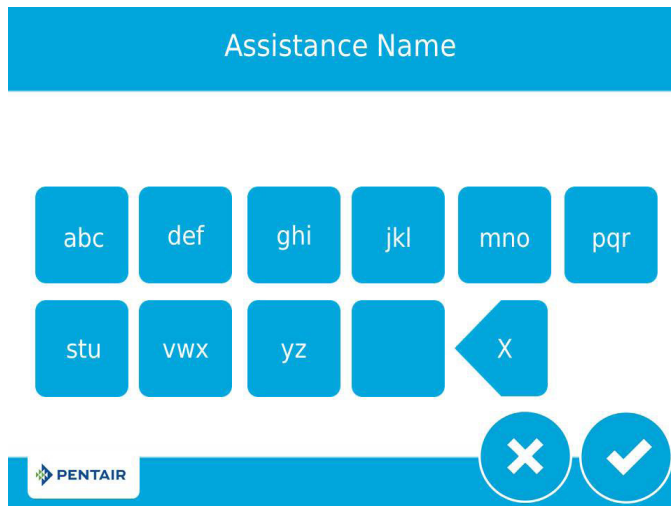

Figure 4 Assistance Name Screen
2. After pressing , the Assistance Name screen (Figure 4) is displayed.